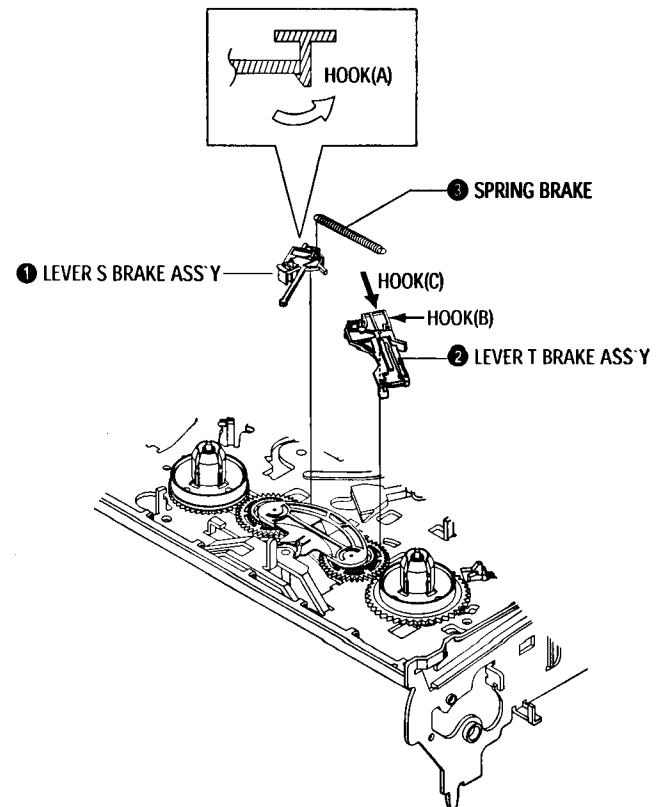

Fig. 1-17 Lever Brake S, T Ass'y Removal
- 1) Remove the Lever Brake S Ass'y (Refer to Fig 1-17).
- 2) Remove the Spring Tension Lever ❶.
- 4) Lift the Lever Tension Ass'y ❷ & Band brake Ass'y ❸.
- 1) Release the Hook [A] and the Hook [B], [C] in the direction of arrow as shown in Fig 1-17.
- 2) Lift the Lever S, T Brake Ass'y ❶, ❷ with spring brake ❸.